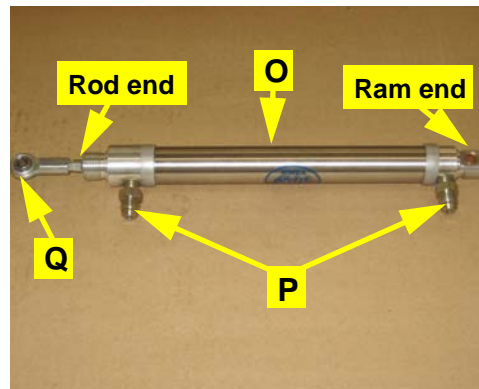

Figure 6a: Assembled steering cylinder
- a. Install the adapter fittings **P** into the two ports on the hydraulic cylinder **O**. Use Teflon thread sealant on the NPT ends of the adapter fittings **P** prior to installing in the hydraulic cylinder (Figure 6a).
- b. Attach the cylinder rod end swivel **Q** to the rod end of the cylinder (Figure 6a).